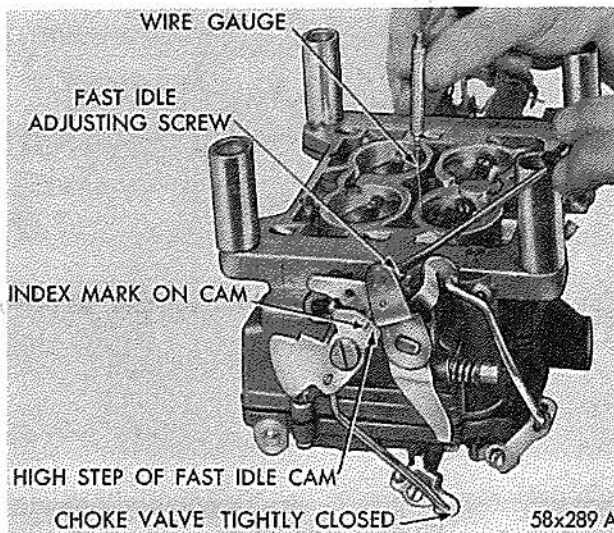

Fig. 6 Checking and Adjusting the Fast Idle
(1) With the choke valve held tightly closed and carburetor inverted, tighten the fast idle adjusting screw (on the high step of the fast idle cam) until wire gauge Tool T-109-29 (.020 inch) can be inserted between the primary throttle valve and the bore (side opposite idle port), as shown in Figure 6. The index mark on the fast idle cam should be in direct line with the fast idle screw shank.